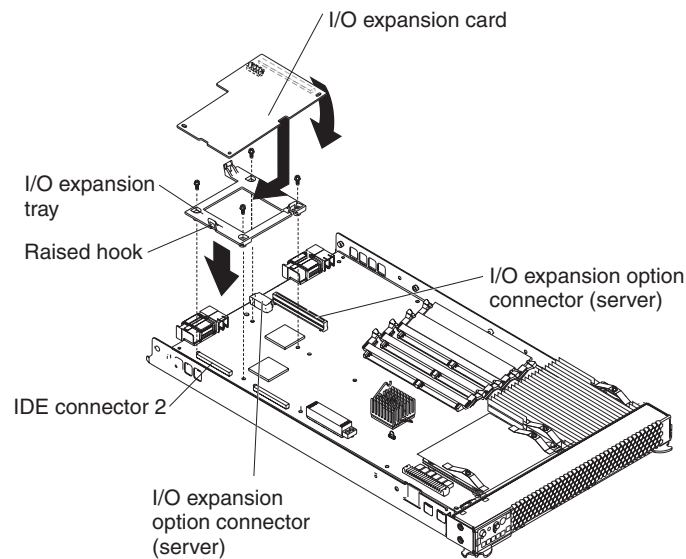

Figure 24. Installing an I/O expansion card
Figure 24 shows how to install an I/O expansion card on the blade server. The card is installed near IDE connector 2.
5. If an IDE hard disk drive is in IDE connector 2, remove the drive and tray (save the screws that secured the tray to the system board); otherwise, remove the two existing screws near IDE connector 2 that secure the system board to the chassis, as shown in Figure 24 on page 45.
- a. Install the I/O expansion card tray. Secure the tray to the system board with the screws from the option kit, as shown in Figure 24 on page 45.
- b. Orient the I/O expansion card as shown in Figure 24 on page 45.